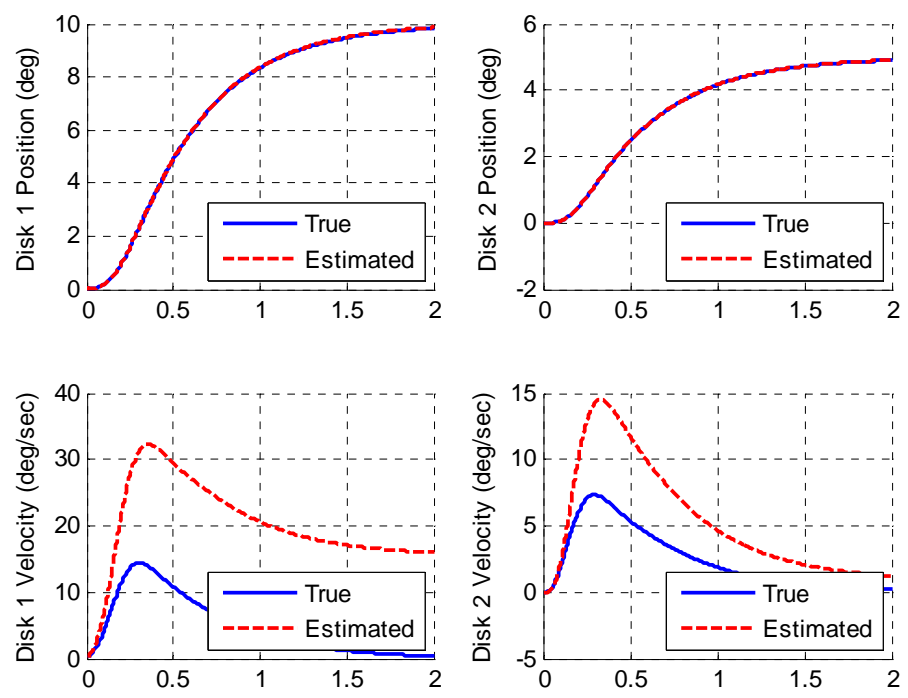

Figure 24. State feedback, full order observer, and integral control for the 2 dof system with a bad model (problem 6e).
e) Rerun the same case as in part d, but now use $AA = 0.5 \cdot A$ and the output is the position of the first disk. You should get results like those in Figure 24.